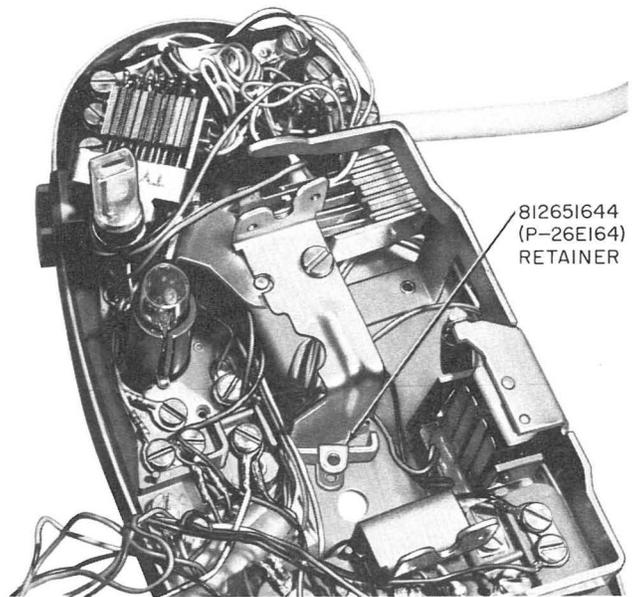

Fig. 3—▶Installing Terminal Board Retainer in PRINCESS® Telephone Set◀
- Revise Fig. 3 and 5
- (1) Remove housing; loosen dial mounting screws and move the dial to one side without disconnecting the dial leads.
- (2) Insert the retainer in left-hand dial mounting bracket (Fig. 3).